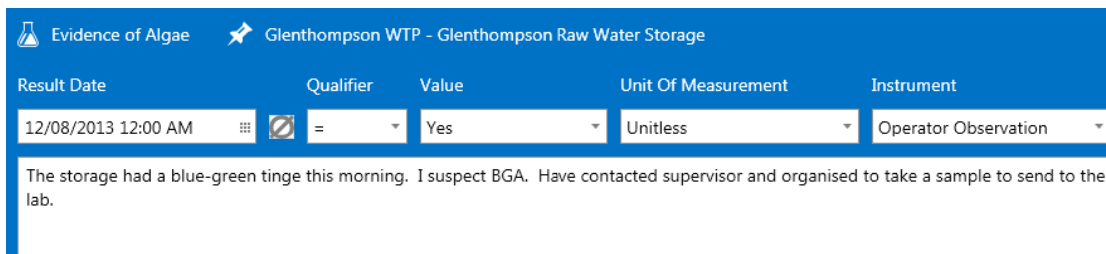
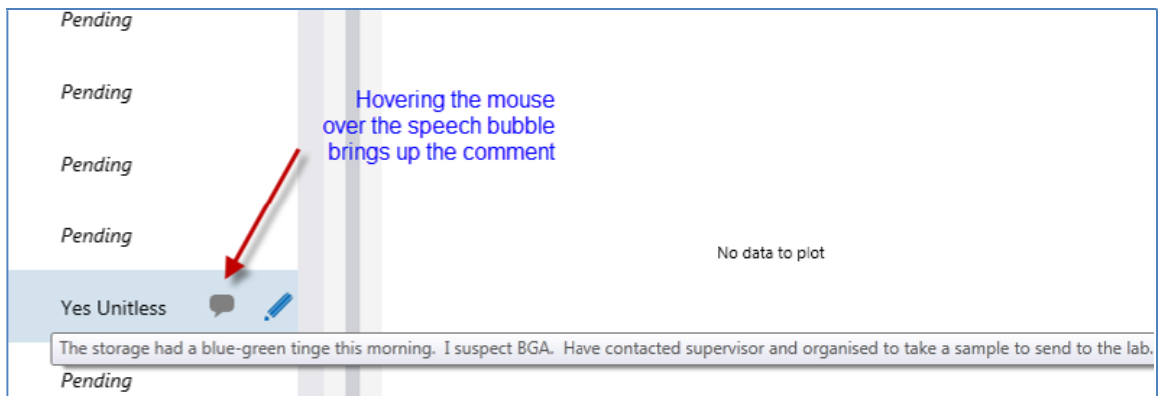

Figure 5: *Comments are added by the Operator*
Figure 6: *Viewing comments on the data entry screen by hovering over the icon*
- 3. Adding and viewing comments.** Comments can be added to any data entry (Figure 5). If a comment is added to a test, it is clearly visible by a speech bubble (Figure 6). An Operator can hover the mouse over the speech bubble to read the comment. Comments can be easily added to any report if required.